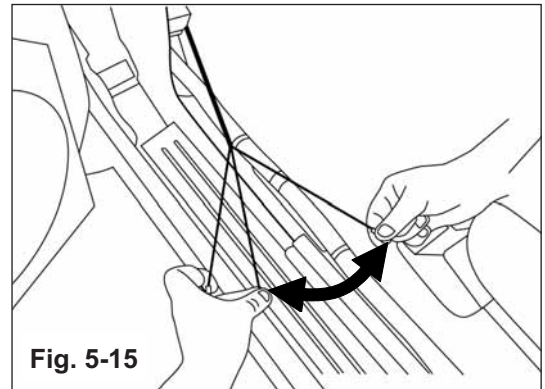

Fig. 5-15
- a) Pull power and ground wires apart approximately 6 inches. (Fig. 5-15)